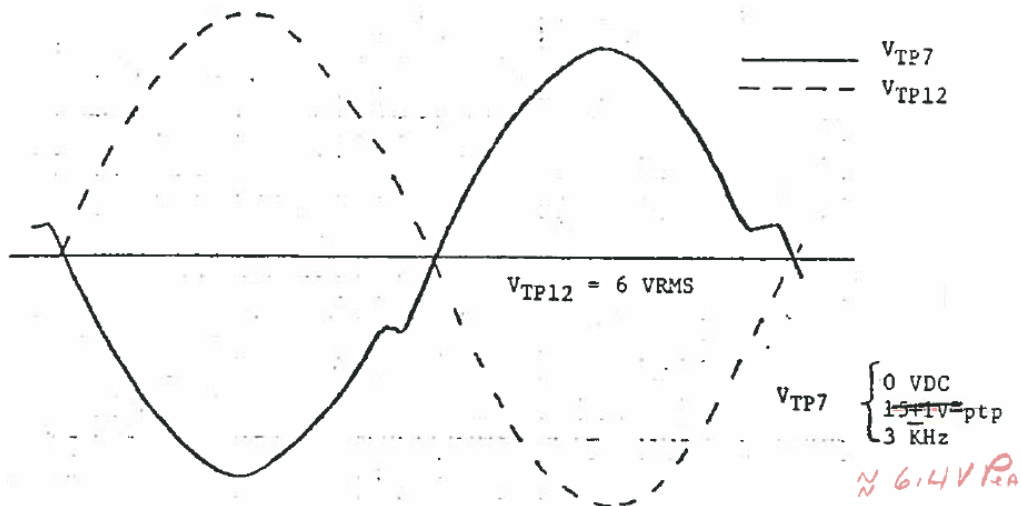

FIGURE 6: V_{TP7} - Transducer Inserted 8"
6.1.31 Using a scope verify the wave forms in figures 6 and 7.